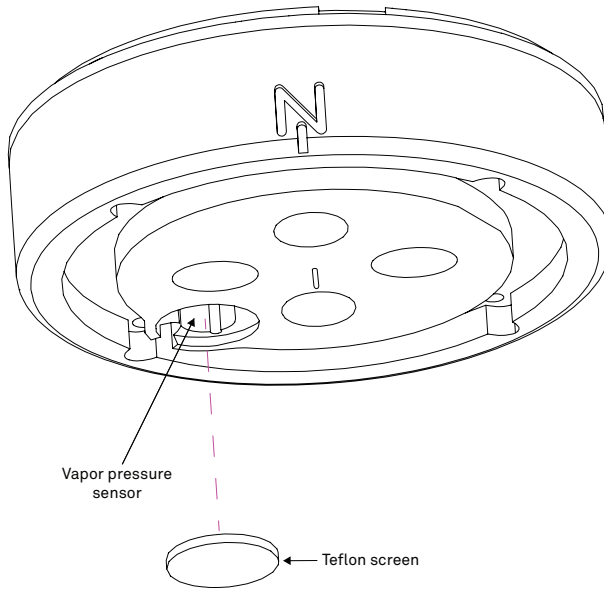

Figure 19 Vapor pressure sensor
The vapor pressure sensor (Figure 19) on the ATMOS 41W is located behind the circular Teflon® screen in the same housing as the sonic transducers. The Teflon screen protects the sensor from liquid water and dust while allowing water vapor to freely pass to the sensor and equilibrate with ambient vapor pressure. The sensor measures relative humidity (RH) and temperature in addition to computing vapor pressure.